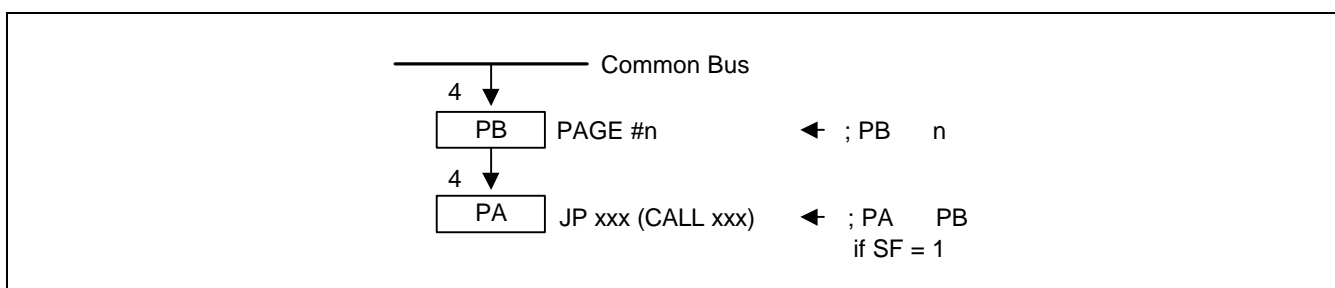

Figure 1-13. PA, PB Operations
A page select instruction (PAGE #n) loads the value "n" into the PB. When JP or CALL instruction is executed, and if the Status Flag (SF) is set to 1, the contents of PB are loaded into PA. If SF is "0", however, the JP or CALL is executed like NOP instruction and SF is set to "1". The contents of PB don't be loaded. Figure 1-13 illustrates this concept.